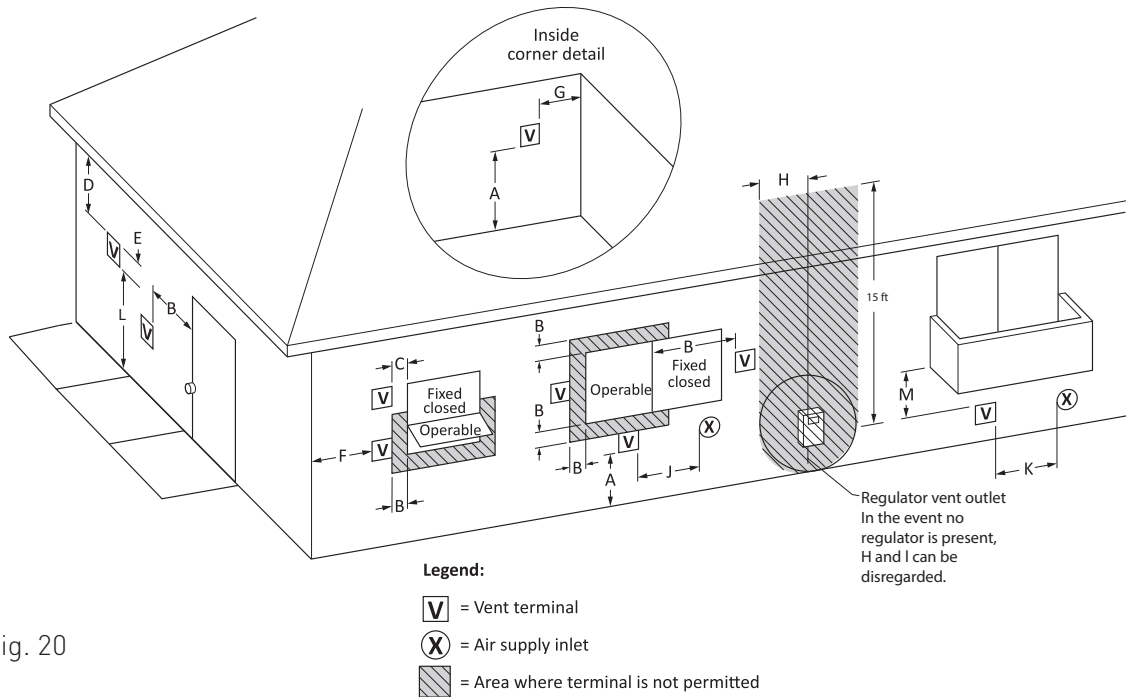

fig. 20
- › In case of horizontal polypropylene co-axial system installation, properly orientate the horizontal co-axial terminal in relation to the slopes inside the exhaust pipe and to protect the combustion air pipe from adverse weather conditions (Refer to section 1.1.18, sub-section III (a) and figure 20).